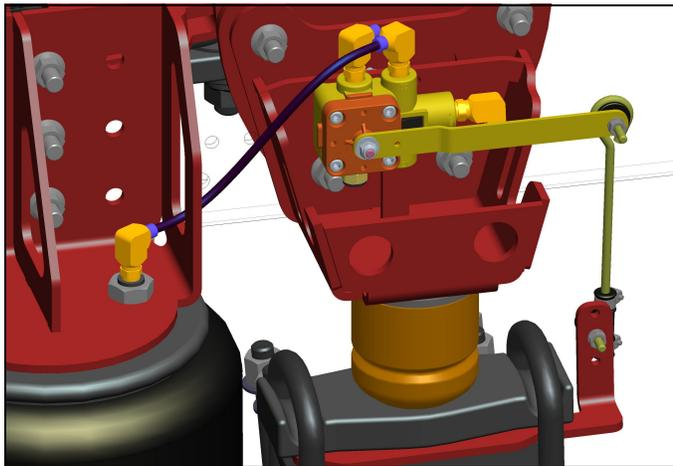

FIG. 8-7 (PASS SIDE AIRSPRING DETAIL)
2.3. Route **AIRLINE 7** from the delivery "C2" port Passenger Side HEIGHT CONTROL VALVE and **AIRLINE 8** from the delivery "C1" Driver Side HEIGHT CONTROL VALVE to inlet port of each airspring. See Fig. 8-7, 8-8 for details.
4. Install the Valve Linkage onto the Lever Arm and Axle Mount Plate. Torque to 8-10 ft-lbs. See Fig. 8-7 and 8-8. Suspension height will be set later.